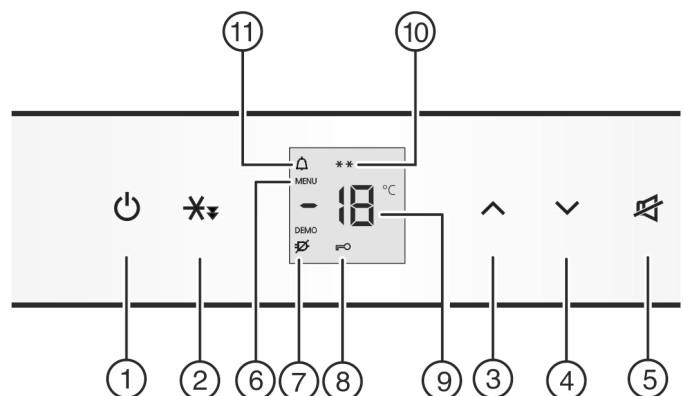

Fig. 2
- Press On/Off button *Fig. 2 (1)*.
- To activate setting mode: Press and hold the Fast-Freeze button *Fig. 2 (2)* for approx. 5 s.
- ▷ The menu symbol *Fig. 2 (6)* shines.
- Press the Fast-Freeze button *Fig. 2 (2)* briefly to confirm.
- To switch on the child-proof lock, press the Fast-Freeze button *Fig. 2 (2)* briefly.
- ▷ The child lock symbol *Fig. 2 (8)* shines. **cl** flashes in the display.
- To switch off the child-proof lock, press the Fast-Freeze button *Fig. 2 (2)* briefly.
- ▷ The child lock symbol *Fig. 2 (8)* goes out. **cl** flashes in the display.
- To deactivate the set-up mode: press On/Off button *Fig. 2 (1)*.
- Press alarm button *Fig. 2 (5)*.
The temperature display and the alarm symbol *Fig. 2 (11)* flash at the same time.
The audible signal switches off automatically, the alarm symbol *Fig. 2 (11)* turns off and the temperature display stops flashing when the temperature is cold enough again.
- ▶ To set the temperature higher: press Up button *Fig. 2 (3)*.
- ▶ To set the temperature lower: press Down button *Fig. 2 (4)*.